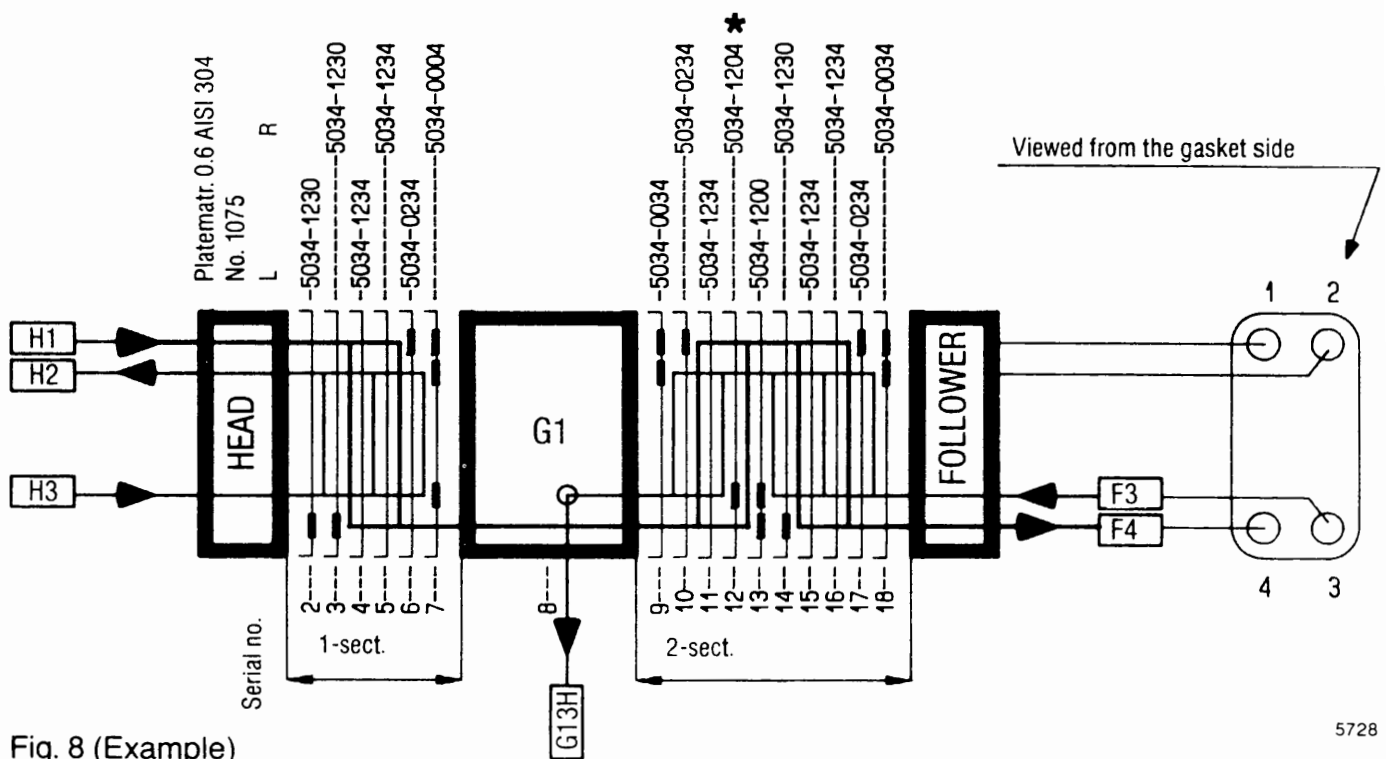

Fig. 8 (Example)
2.3) DIAGRAM (FIG. 8)
The plate pack is suspended between the head and the follower. The gasket side of the plates must always face towards the head. On the right-hand side of fig. 8 can be seen a single plate viewed from the gasket side. The corner holes of the plate are designated 1-4.
The material quality and the four first digits of the reference number of the plate are stated in the top left-hand corner of the diagram fig. 8 (No. 1075). The four last digits of the eight-digit reference number are placed on the plate to-